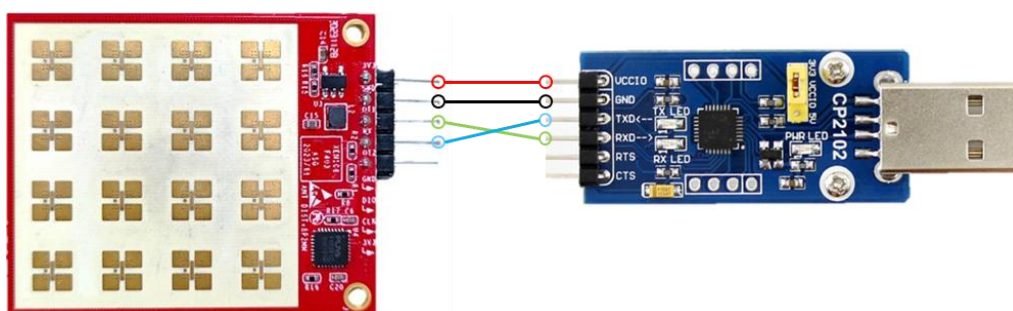

Figure 4 - 1 Schematic diagram of connecting HLK-LD2413 and USB serial port adapter board
Step 1: Use the USB to TTL serial port adapter board to connect the host computer and the HLK-LD2413 millimeter wave sensor. The pin connection method is shown in Table 4 - 1 and Figure 4 - 1 ;